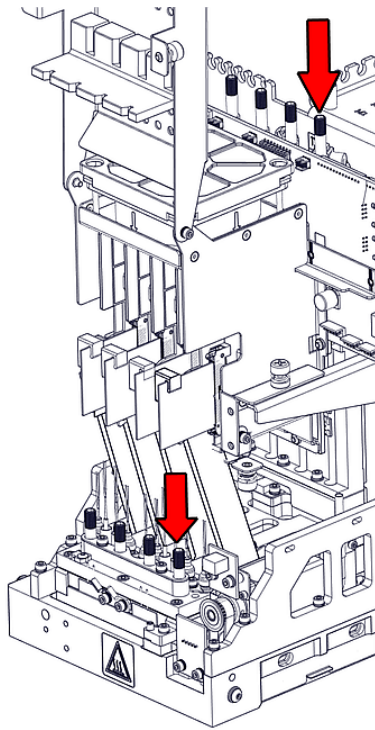

Figure 4-86 Releasing the print head
19. Tighten the upper and lower screws that secure the print head in the print block (see Figure 4-86 on the previous page).